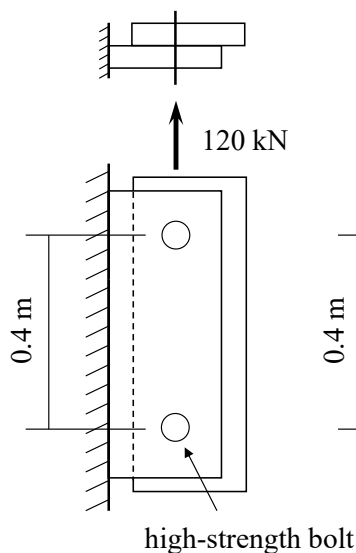
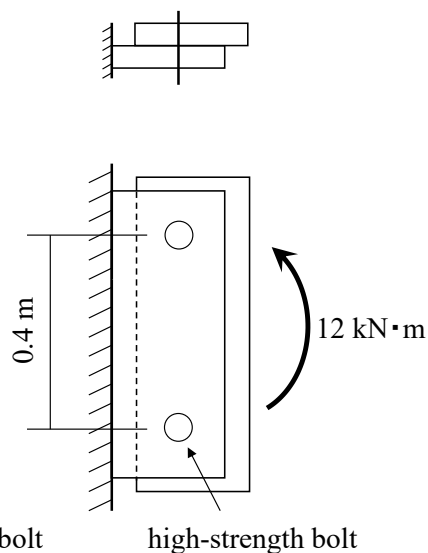

Fig. 1
Fig. 2
Answer the following questions (1) - (6) regarding steel structures. Figures show the friction-type connections using high-strength bolts. Fig. 1 shows the case in which the vertical force of 120 kN acts on the connection. Fig. 2 shows the case in which the bending moment of 12 kN・m acts on the connection. It is assumed that the friction coefficient between the plates is 0.45 and the safety factor is 1.5.
- (1) Find the shearing force per bolt for Fig. 1.
- (2) Find the required pre-tensile force of each bolt for Fig. 1.
- (3) Find the shearing force per bolt for Fig. 2.
- (4) Find the required pre-tensile force of each bolt for Fig. 2.